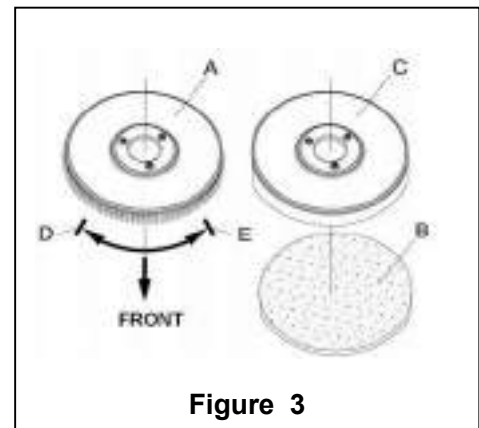

Figure 3
According to the type of floor to be cleaned, the machine may be installed with brush (Figure3, A), or a pad-holder (Figure 3, B and C).
1. (Only applicable to **AS430C** and **AS510C**): make sure the power cable (9) disconnecting the power supply and the power switch (38) is at the disconnecting (**O**) condition.
2. Press down the handlebar (2) to lift the tank body (26).
3. Put the brush (A) or the pad-holder (B – C) under the case.
4. Use the handlebar (2) to lower the tank body (26) to come into contact with the brush or pad-holder.
5. To install the brush/pad-holder automatically, turn the power switch (38) to the "I" position and press down the safety switch (1). Gently push the machine forward so as to allow the belt wheel at the bottom of the tank body to align with the brush or pad-holder which can then be installed. Then release the safety switch. If necessary, repeat this procedure until the brush/pad-holder is installed.
6. If Step 5 above proves to be difficult, use the manual method by following the arrow head (D) to install the brush/pad-holder (as shown in **Figure 3**).
7. To automatically unload the brush/pad-holder, turn the power switch (38) to the "O" position. Use the hand to hold the handlebar, and press the machine downwards until the guide wheel touches the floor and the brush/pad-holder hangs in the air. Turn the power switch (38) to the "I" position, and press down the safety switch to let the brush or pad-holder turn until the brush/pad-holder drops to the floor.
8. If Step No. 7 above proves to be difficult, use the manual method by turning the brush/pad-holder in the direction opposite to the normal turning direction, and it can be taken off. (as shown in **Figure 3**)